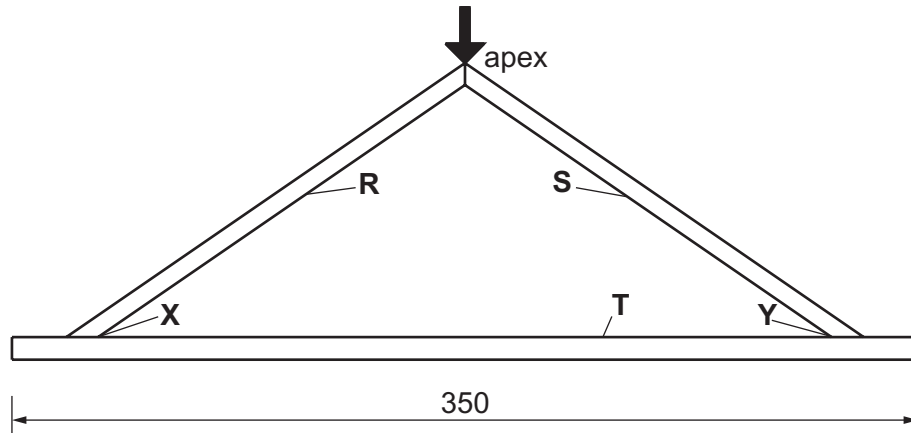

Fig. 9.1
- 9 Fig. 9.1 shows part of a model of a roof truss. Joints at **X** and **Y** have been glued together.